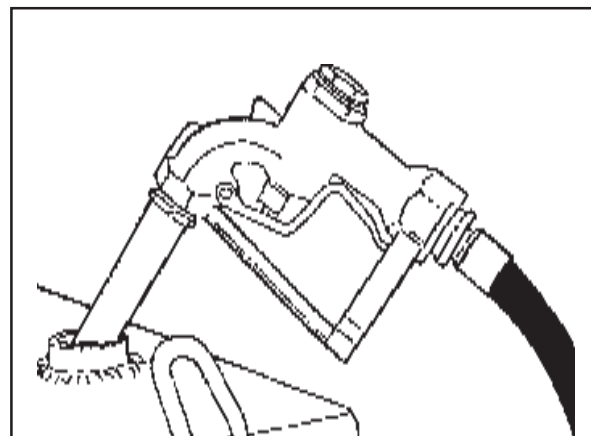

Figure 32
4. When adding Oil in the field keeping it clean is critical, do not use dirty funnels or hoses. Do Not open Hydraulic tank or any containers unless the openings have been cleaned first. The outside of the containers must be clean. If a windy dusty day do not fill and allow dirt to blow into oil. Always add Oil using a pump system with at least a 10 Micron filter system. (See Figure 32)